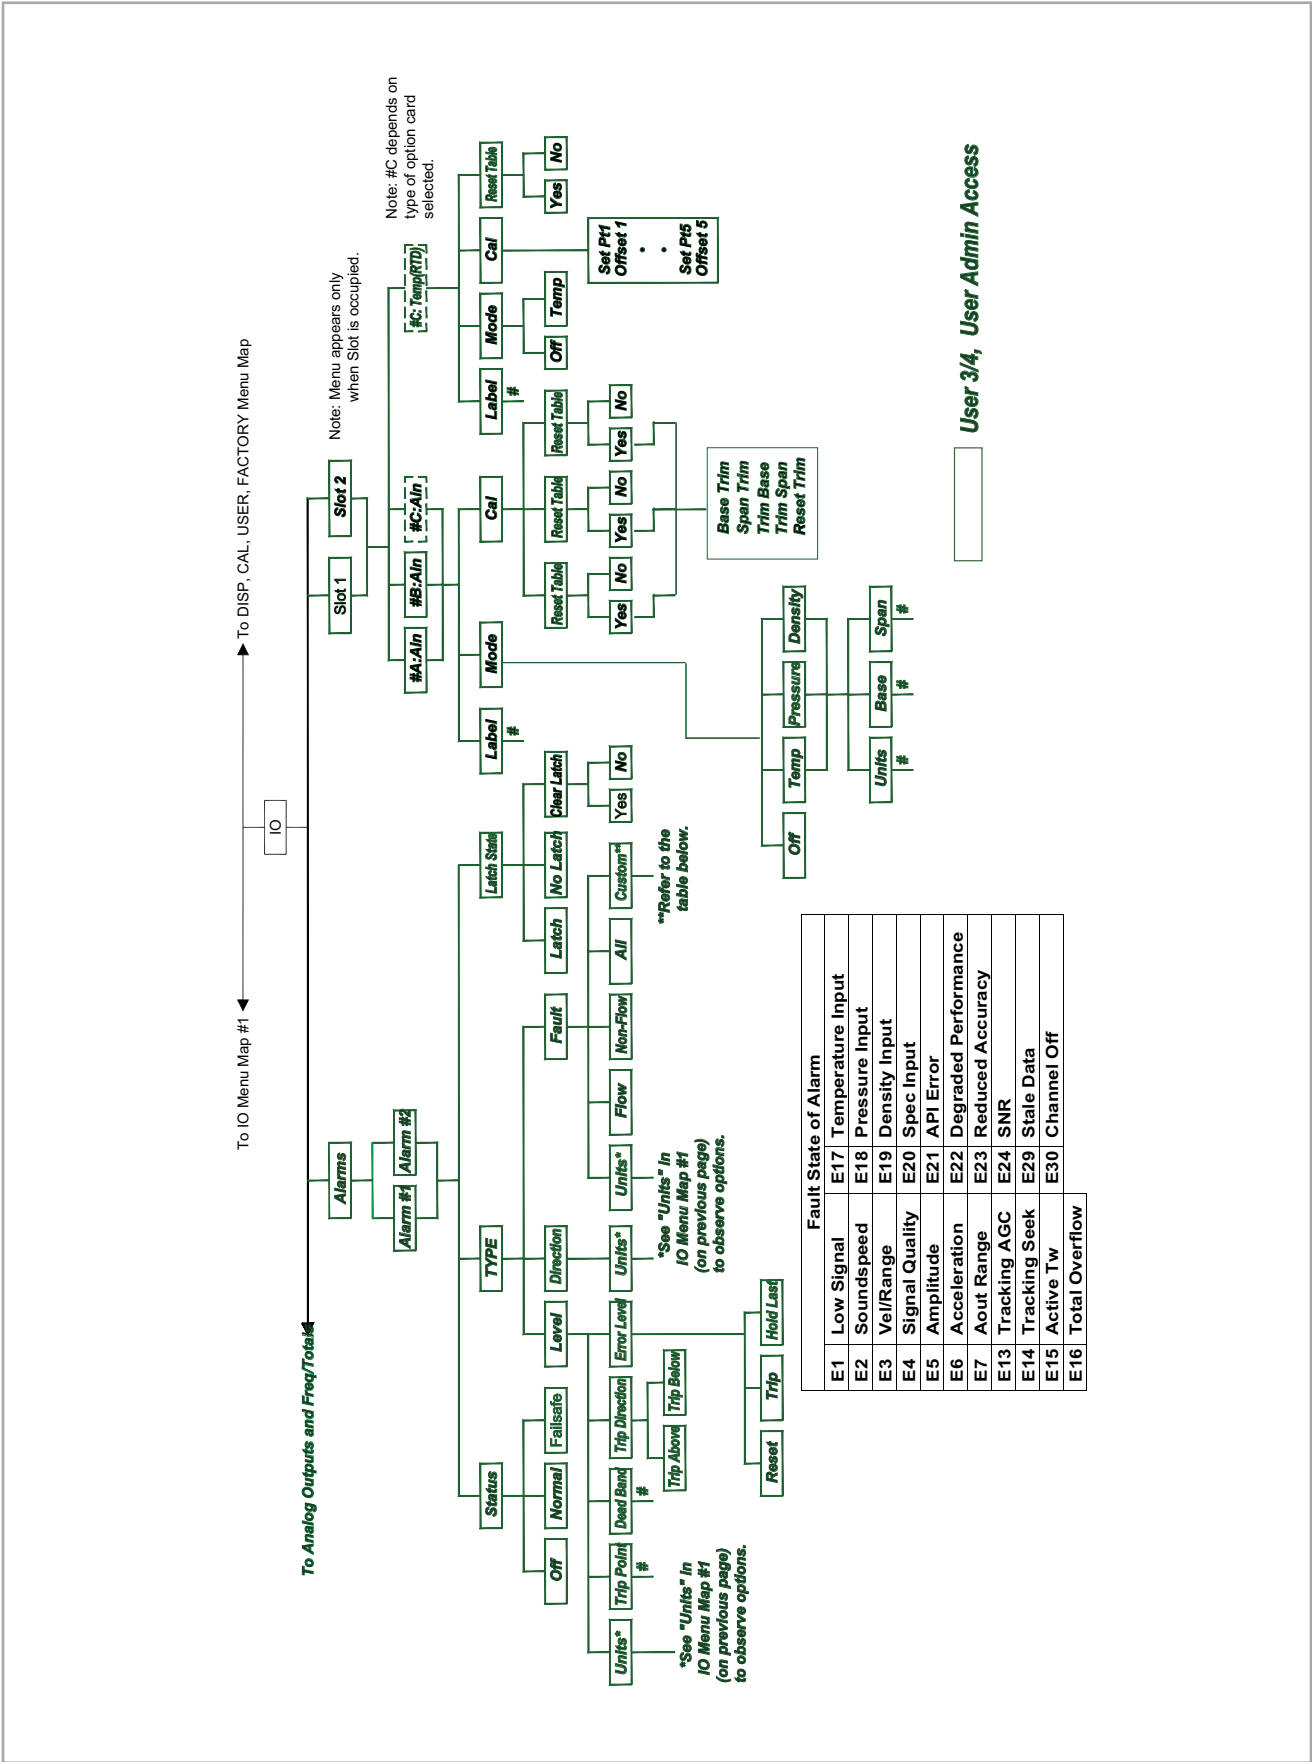

Figure 70: IO-ALARMS and IO-SLOT menu map
- Figure 70, "IO-ALARMS and IO-SLOT Menu Map," on page 96